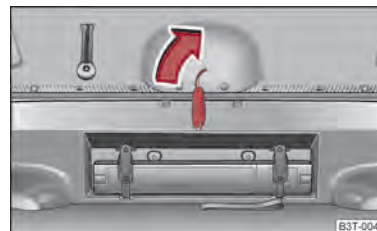

Fig. 23 Emergency unlocking of the boot lid
- Guide the key into the slot in the trim panel as far as the stop ⇒ fig. 23.